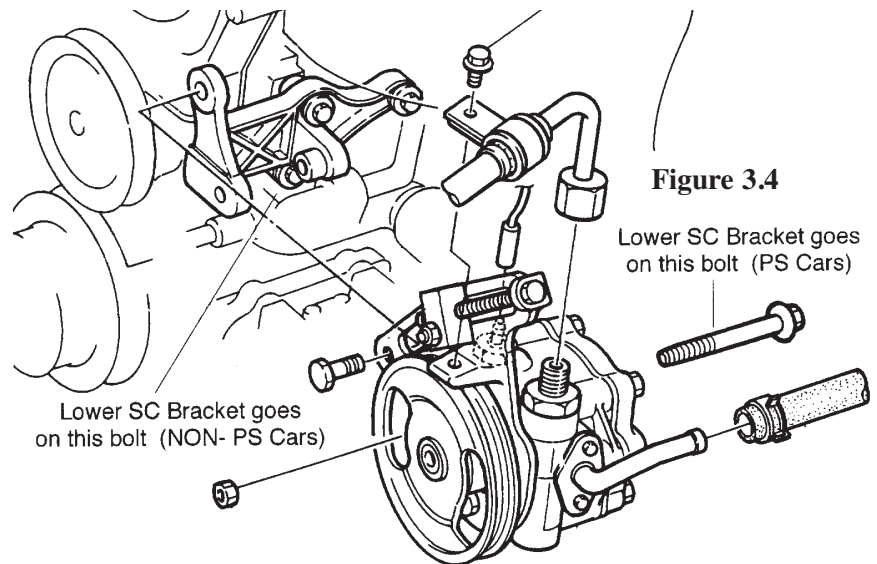

Figure 3.4
3.6 NON POWER STEERING CARS: Locate your lower bracket assembly from the kit. The end with the small 90 degree bracket mounts to the idler bracket (standard on AC equipped cars) or to new idler bracket (supplied with kit for non-AC, non-PS cars). Use the new, longer 10mm bolt provided to attach this bracket to the engine (Review figure 3.4 for bolt location).
power steering bracket to attach your lower bracket to, you will use special bracketry that we have included with your kit. Turn to figure 3.4 in the installation manual and find the note describing the bolt that will be used for the non-power steering car's lower strap bracket anchor. The Mazda idler pulley set-up for your 4-rib belt has a cast iron bracket that is bolted to the engine block. This bracket is held on by three large bolts. The lower bolt of the triangle pattern will be the one you attach our "L" bracket to. It is in the position noted in figure 3.4. This is where you will attach the small "L" bracket to the engine block using the new M10x50 fine thread bolt we provide. The lower strap bracket can then be attached to this "L" bracket, supporting the outside of the supercharger. For the belt drive, please remove all the adjustment hardware from the cast iron Mazda idler bracket (the idler pulley, the special mounting bolt, the vertical adjustment bolt, etc.). You will be left with just the naked iron bracket on the engine. Using the 2.5" diameter idler we provide, and the M10x50 bolt, washer and nyloc nut, mount the nylon idler to the front of the Mazda cast iron bracket. Make sure to put the Mazda Cast Iron washer under the bolt's head and to aim the bolt toward the radiator (see diagram). Run the belt over the crank pulley the supercharger and around the air conditioning compressor. Push the idler downward and tighten its center bolt to properly tension the 4-rib belt. If you are careful, a screwdriver can be placed in the cast iron Bracket's vertical slot to lever the pulley downward. This will help you get the proper
tension on the belt. You should have less than 3/8inch deflection on the longest run of the belt. If you find the belt to fit too tightly, gently rock the car in fourth gear while pressing the belt onto the pulley. Watch out for your fingers. **UNDER NO CIRCUMSTANCES SHOULD YOU USE THE ENGINE STARTER TO "BUMP" THE BELT ONTO THE SUPERCHARGER. DOING SO PUTS A HIGH LOAD ON THE SUPERCHARGER BEARING AND WILL VOID YOUR WARRANTY. IT ALSO IS VERY DANGEROUS.** Loosen the pinch bolts on your relocated power steering adjustment assembly (12mm head on pillow block pinch bolt, 14mm head on lower front bolt). Tighten the long bolt "D" per figure 3.4 to achieve correct belt tension. The longest run of the belt should not deflect more than 3/8 of an inch when pressed down with around 22 pounds of thumb pressure. The tension specification is 90 pounds. Re-tighten the pillow block pinch bolt, idler bracket bolt, and the power steering pivot bolt. An easy check for proper belt tension is done by listening to your belts during warm up. If turning the steering wheel with the air conditioning on creates a squeal, then the tension is far too loose. In general, only a slight amount of black dust should appear around the supercharger nose when the tension is correct. Heavy dusting indicates excessive belt wear from a loose belt. Check your tension again after the first 500 miles - it will loosen slightly as the belt wears in. **NEVER ATTEMPT TO ADJUST THE BELT WITH THE ENGINE RUNNING!** Re-tighten all bolts and double-check your work.